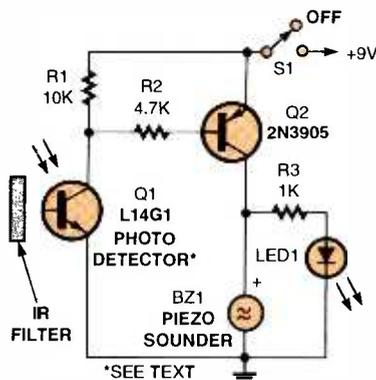

Fig. 4. This circuit detects infrared energy impinging upon the IR photodetector. The energy, in turn, sounds the buzzer and turns on the LED.
PARTS LIST FOR IR-DETECTOR CIRCUIT (FIG. 4)
Our last entry this visit, see Fig. 4, is an infrared- (IR) detector circuit. This IR detector offers two different output indicators. A piezo sounder sends out an audible signal when the detector sniffs out an IR source. This can be a real help if you are searching for an IR source and are not in a position to look at the LED indicator.